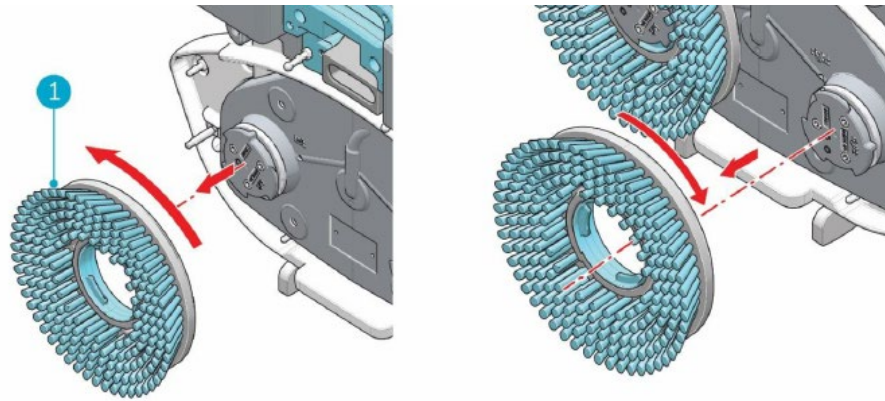

Fig. 16
4. Using your other hand to turn the left brush (Figure 16, pos 1) anticlockwise until you feel resistance or see the motor disk turning as well.